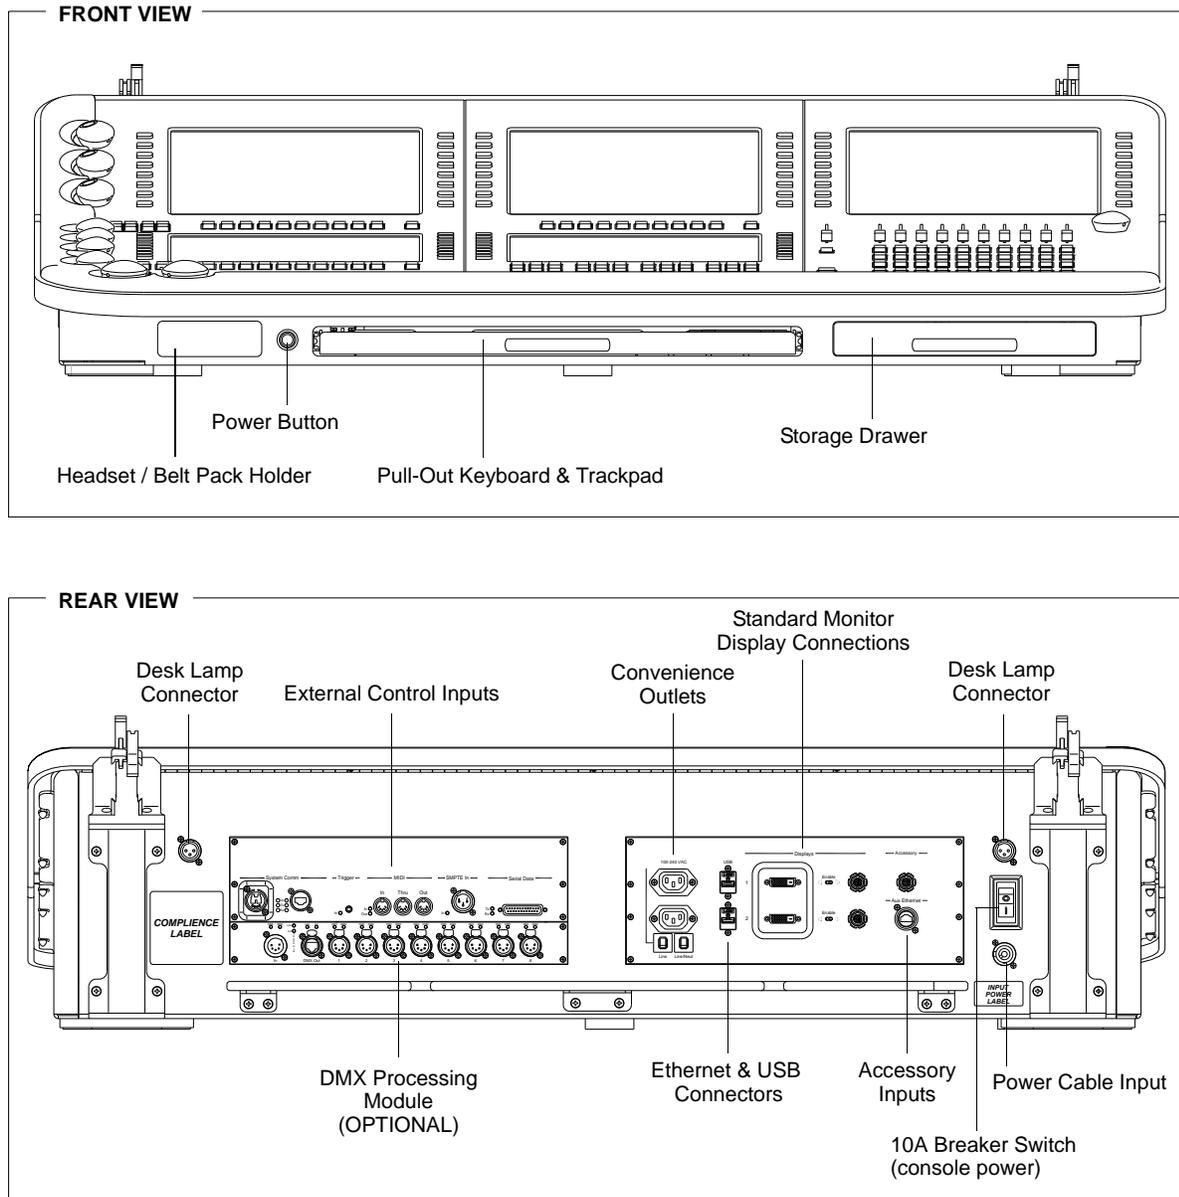

Figure 3: V676 Console Front and Rear Panels
- Step 1. At rear of console, set breaker switch to ON position. (Refer to **Figure 3** on page 6.)